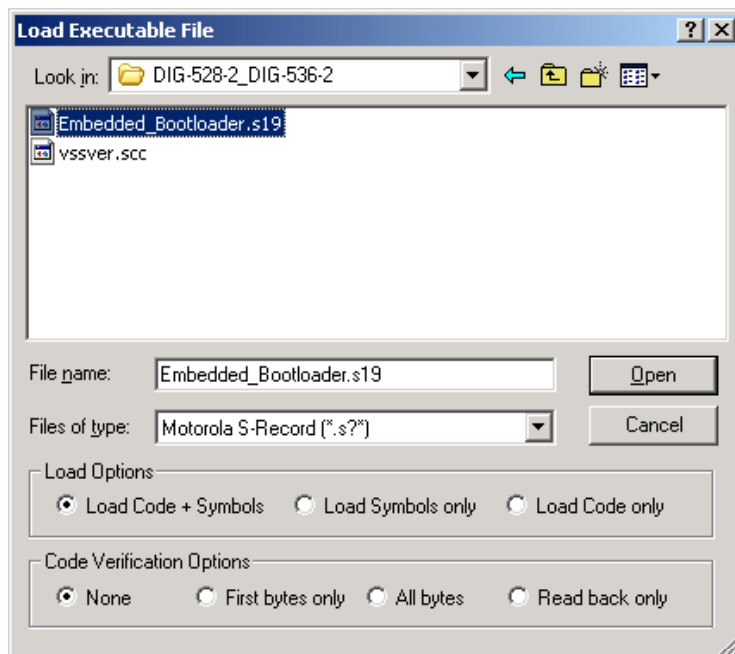

Figure 21 Load Executable File Window
11. Click on “Load Application” under the “File” menu to open the “Load Executable File” window. Specify the application file to program using the “Load Executable” window as shown in Figure 21. Select the “Motorola S-Record (*.s19)” under “Files of type:”, then navigate to the folder where a copy of the Embedded Bootloader is located. Select the “Embedded Bootloader.s19” file and click the “Open” button.